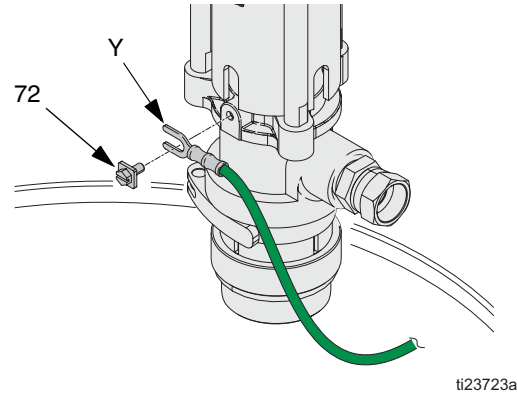

FIG. 9
1. *Pump:* Connect Ground Wire (Y) to grounding screw (72) and tighten the screw securely. See FIG. 9. Connect the other end of the wire to a true earth ground. Make certain to comply with all National, State, and Local Electrical Codes.